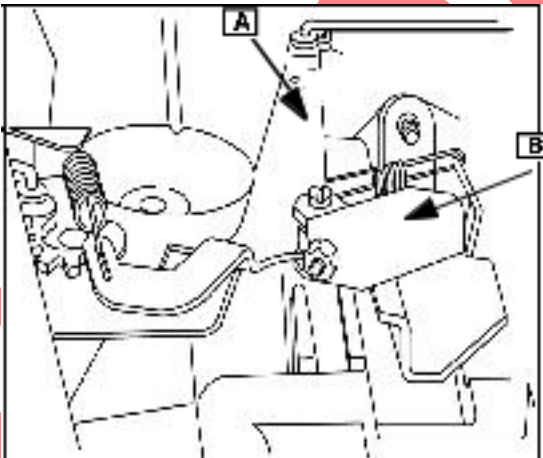

Fig. 31
NOTE: (161432 Type 0080-01) When assembling governor lever assembly (A), ensure that tab on strike plate ([B] Fig. 31) is between upper and lower half of lever clamping area.